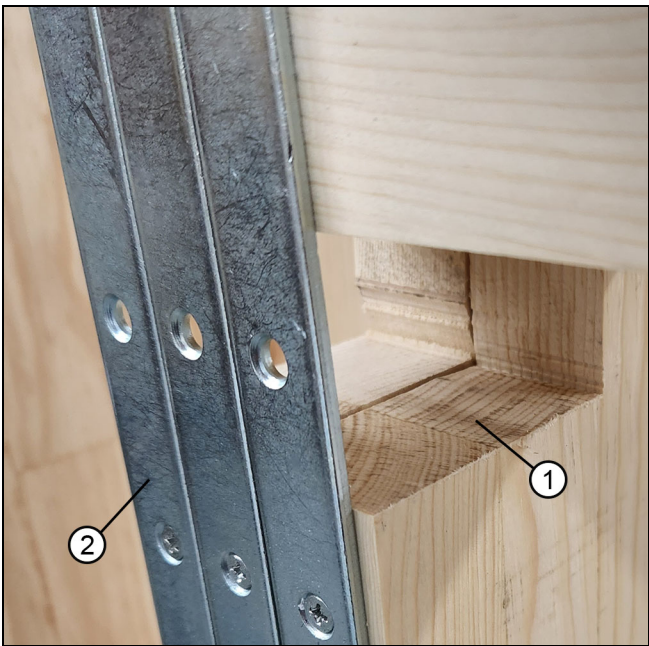

Figure 2 Notched stud
2. Option B: Measure the height of your door and cut a 1 1/4" x 2 1/2" deep notch lined up with the belt pass-through on the corner key. When installation is complete cover the notch with a steel tie plate. See Figure 2.